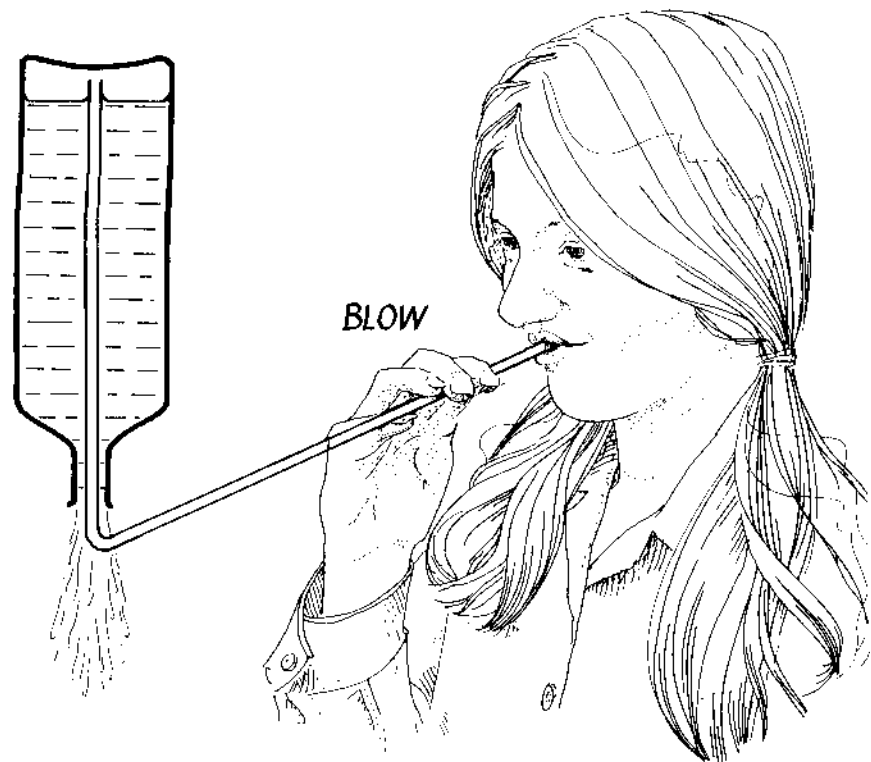

Figure 24.4 Method No. 6
- Using the glass tubing method but, as soon as the bottle is turned upside down, blowing through the tubing (see Figure 24.4).